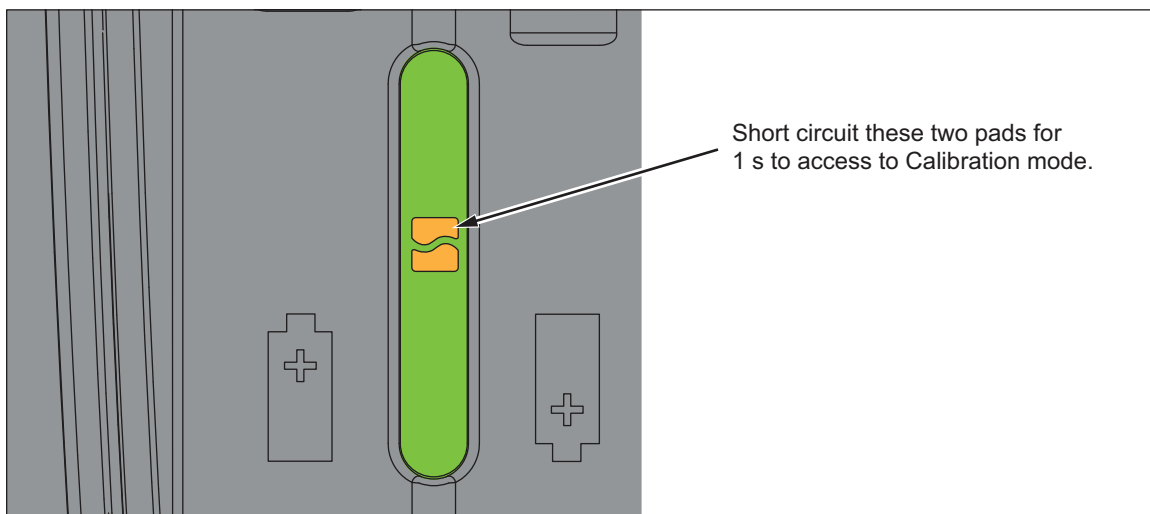

Figure 3. Calibration Activation
6. Use a small jumper to short the two pads together under the calibration sticker. This will put the Product into calibration mode. See Figure 3.